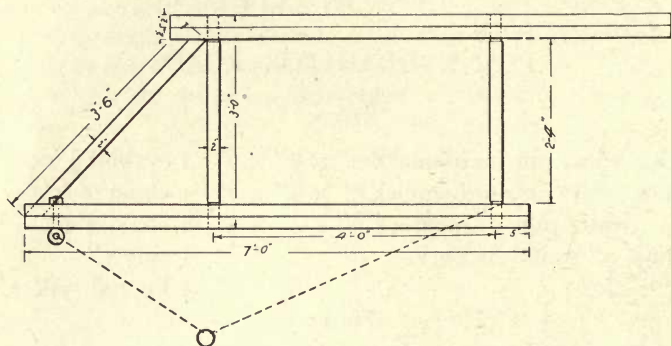

FIG. 65.—WORKING DRAWING OF PLANK DRAG.
3. **Laying out holes.** — Lay out the holes in the 2" × 4" pieces before spiking them to the 2" × 8" pieces so that you will not drive a spike where a hole should be. Figure 65 indicates where the holes should be bored.